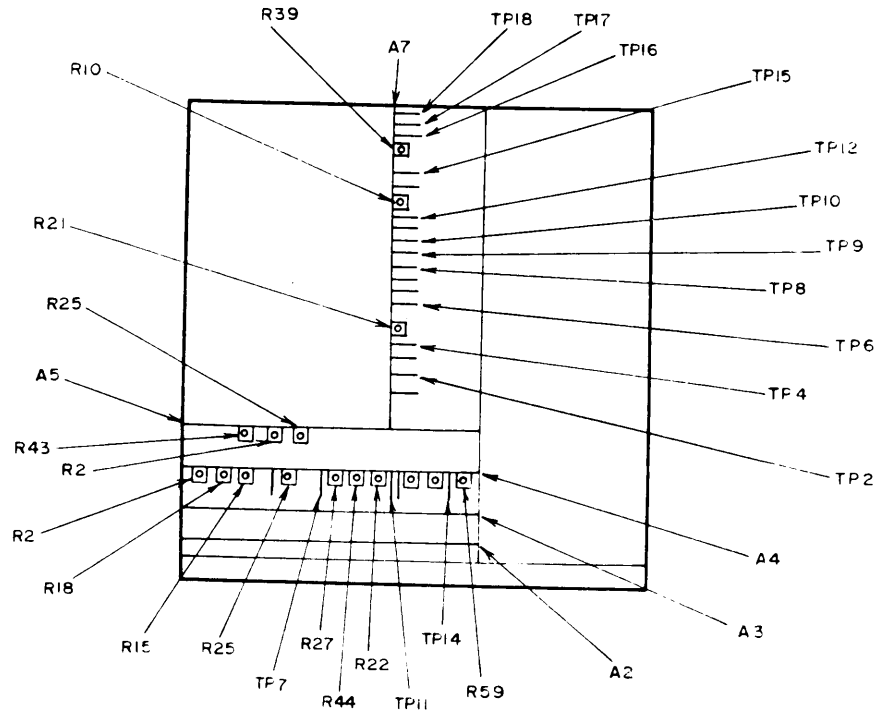

Figure 1. Test instrument mainframe - adjustment locations.
- (1) Connect multimeter to A4TP7 (-) and A4TP11 (+) (fig. 1).
- (2) Press **CW** key and enter data **0 MHz** on keyboard. Multimeter will indicate between -0.004 and +0.004 V dc.
- (3) Enter data **5 GHz** on keyboard. Multimeter will indicate between 4.996 and 5.004 V dc.
- (4) Enter data **10 GHz** on keyboard. Multimeter will indicate between 9.996 and 10.004 V dc.
(1) Connect multimeter to A4TP7 (-) and A4TP14 (+) (fig. 1). Adjust A4R59 (fig. 1) for multimeter indication of 10.0000 V dc (R).
(2) Disconnect multimeter from TI and connect frequency counter to **POS Z BLANK** (rear panel).
(3) Press function keys and enter corresponding data on keyboard as listed in (a) and (b) below:
(4) Adjust A5R2 (fig. 1) for frequency counter indication of 10.000 ms (R).
(5) Press function keys and enter corresponding data on keyboard as listed in (a) and (b) below:
(6) Adjust A5R25 (fig. 1) for frequency counter indication of 1000 ms (R).
(7) Disconnect frequency counter from TI and connect multimeter to A4TP7 (-) and A4TP11 (+) (fig. 1).
(8) Press function keys and enter corresponding data on keyboard as listed in (a) through (f) below:
(9) The **FREQUENCY/TIME**, display will indicate **FE**. Adjust A5R43 (fig. 1) for multimeter indication of 110 V dc (R).
(10) Press function key and enter corresponding data on keyboard as listed in (a) through (e) below:
(11) The **FREQUENCY/TIME** display will indicate 01. Adjust A4R44 (fig. 1) for multimeter indication of -0.20508 V dc (R).
(12) Enter data **BKSP** on keyboard. The **FREQUENCY/TIME** display will indicate **FF**. Adjust A4R22 (fig. 1) for multimeter indication of -0.19492 V dc (R).
(13) Enter data **80** on keyboard. The **FREQUENCY/TIME** display will indicate 80 and the multimeter will indicate -0.2000 V dc.
(14) Press function keys and enter corresponding data on keyboard as listed in (a) and (b) below:
(15) Adjust A4R27 (fig. 1) for multimeter indication of 10.2000 V dc (R).
(16) Press function keys and enter corresponding data on keyboard as listed in (a) through (c) below:
(17) Adjust A4R25 (fig. 1) for multimeter indication of 10.2000 V dc (R).
(18) Enter data -200 MHz on keyboard. Adjust A4R2 (fig. 1) for multimeter indication of -0.2000 V dc (R).
(19) Press **ΔF** key and enter data **0 GHz** on keyboard. If multimeter does not indicate 5.00000 V dc, press **VERNIER** key and adjust **FREQUENCY VERNIER** control for 5.00000 V dc multimeter indication.
(20) Press **ΔF** key and enter data **1.299 GHz**. Adjust A4R15 (fig. 1) for multimeter indication of 4.35064 V dc (R).
(21) Press **ΔF** key and enter data **162.4 MHz** on keyboard. Adjust A4R18 (fig. 1) for multimeter indication of 4.91883 V dc (R).
(1) Connect multimeter to A7TP16 (-) and A7TP15 (+) (fig. 1). If multimeter does not indicate between 19.990 and 20.010 V dc, perform **b** (1) below.
(2) Disconnect multimeter from A7TP16 and A7TP15. Connect to A7TP17 (-) and A7TP18 (+) (fig. 1). If multimeter does not indicate between -39.980 and -40.020 V dc, perform **b** (2) below.
(3) Disconnect multimeter from A7TP17 and A7TP18. Connect to A7TP8 (-) and A7TP9 (+) (fig. 1). If multimeter does not indicate between -9.995 and -10.005 V dc, perform **b** (3) below.
- (1) Adjust A7R10 (fig. 1) for multimeter indication of 20.000 V dc (R).
- (2) Adjust A7R39 (fig. 1) for multimeter indication of -40.000 V dc (R).